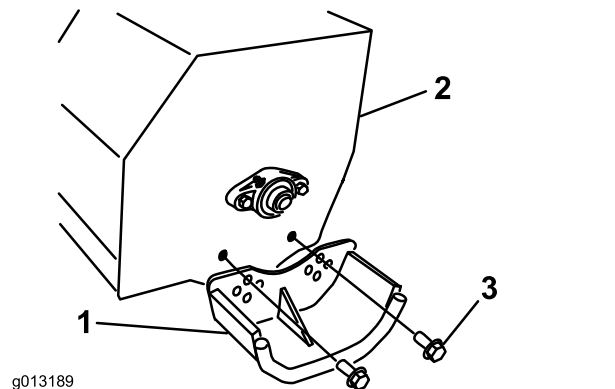

Figure 7
3. Remove the bolts that secure the skids to the housing (Figure 7).
4. Position the skids equally on both sides and secure them with the bolts (Figure 7).